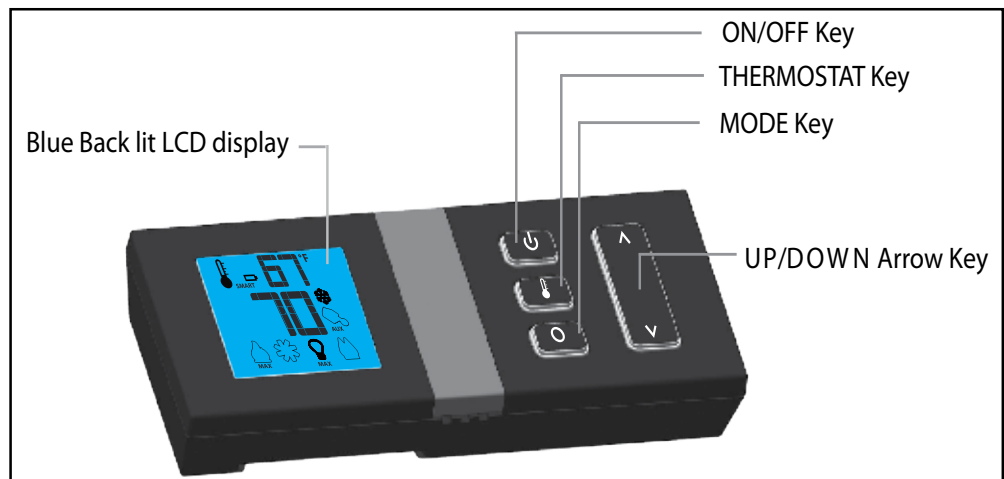

Figure 2: Proflame 2 Transmitter.
5. Wait five (5) minutes to clear out any gas. Then smell for gas, including near the floor. If you smell gas, STOP! Follow "B" in the safety information above. If you don't smell gas, go to the next step.
7. Using the remote control, press the ON/OFF key on the remote (Figure 2). "ON" will be indicated on the display of the remote and an audible "beep" will be heard at the unit to indicate the command has been received.